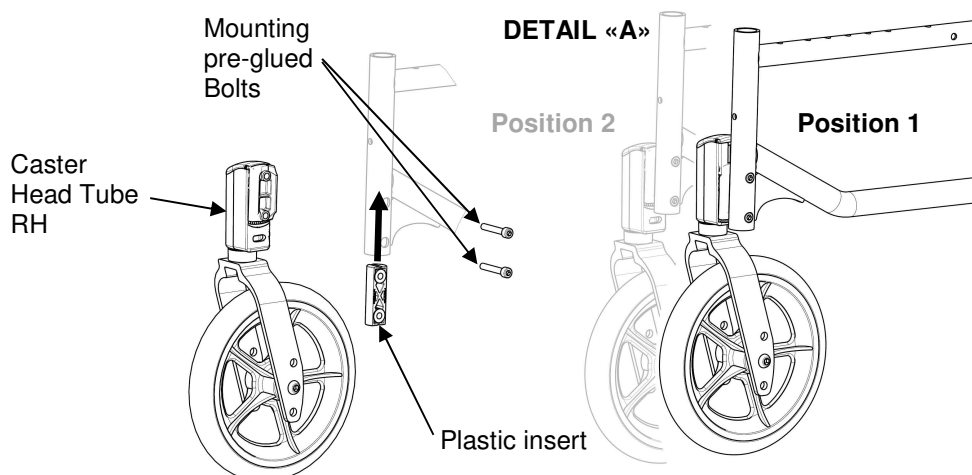

FIGURE 5.11 Adjusting Caster Assembly Position
NOTE: For this procedure, refer to FIGURE 5.11.
2. Move the caster head tube assembly to one of two positions. Refer to Detail “A” of FIGURE 5.11. Always check that the plastic insert is present before tighten the mounting screws.